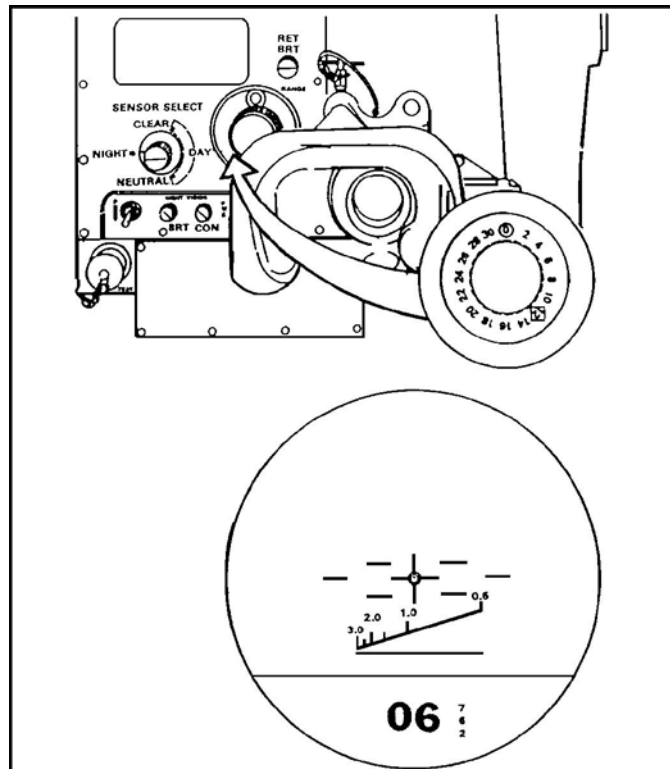

Figure 4. Range control knob and status indicator.
4. The Bradley commander finds the range of the target using the range finder in the reticle and announces the range to the gunner-for example, "Six hundred" (Figure 4).